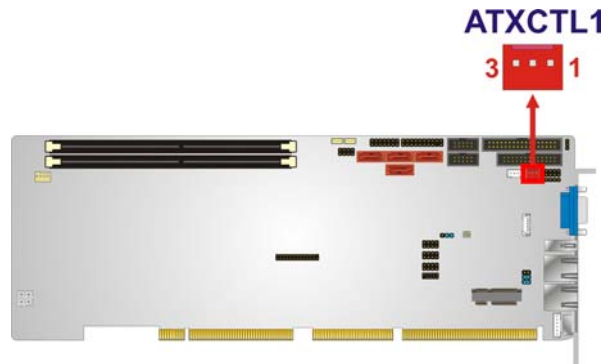

Figure 3-2: ATX Power Supply Enable Connector Location
- CN Location:** See **Figure 3-2**